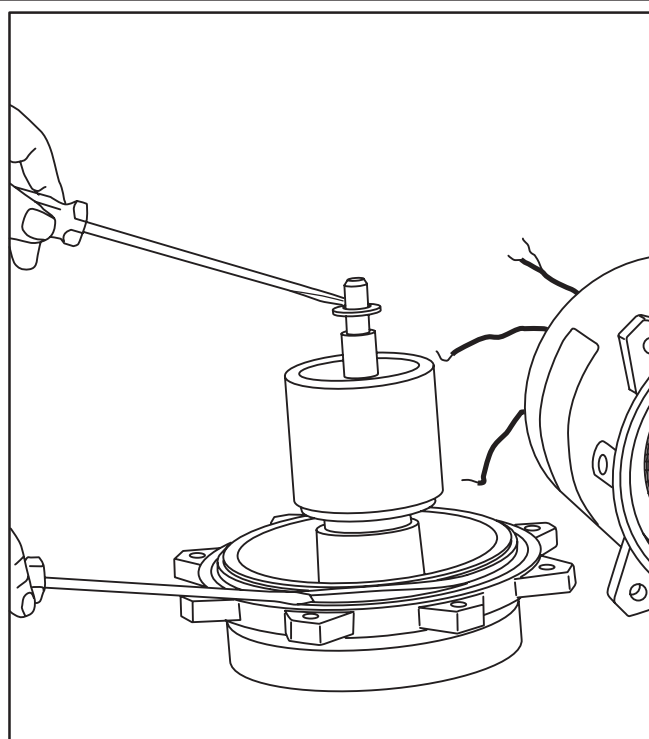

Fig. 25
12. In reassembly, be sure rubber seal ring and thrust washer are in place as shown. Fig. 25